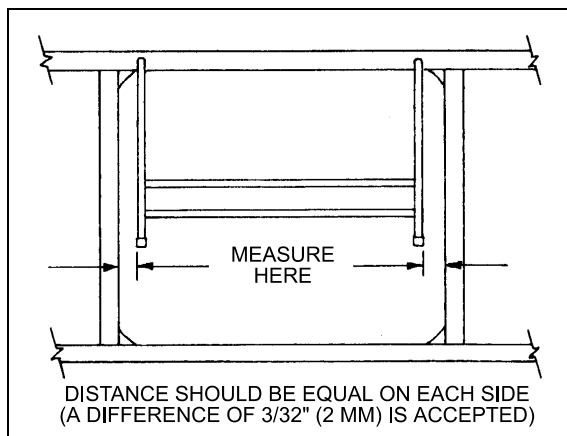

FIGURE 46: PANTOGRAPH DOOR ADJUSTMENT 18063
5. When the door is straight, remove the 2x4's and check door operation and fit. A difference of $3/32$ " (2mm) between both sides is accepted (Fig. 46).